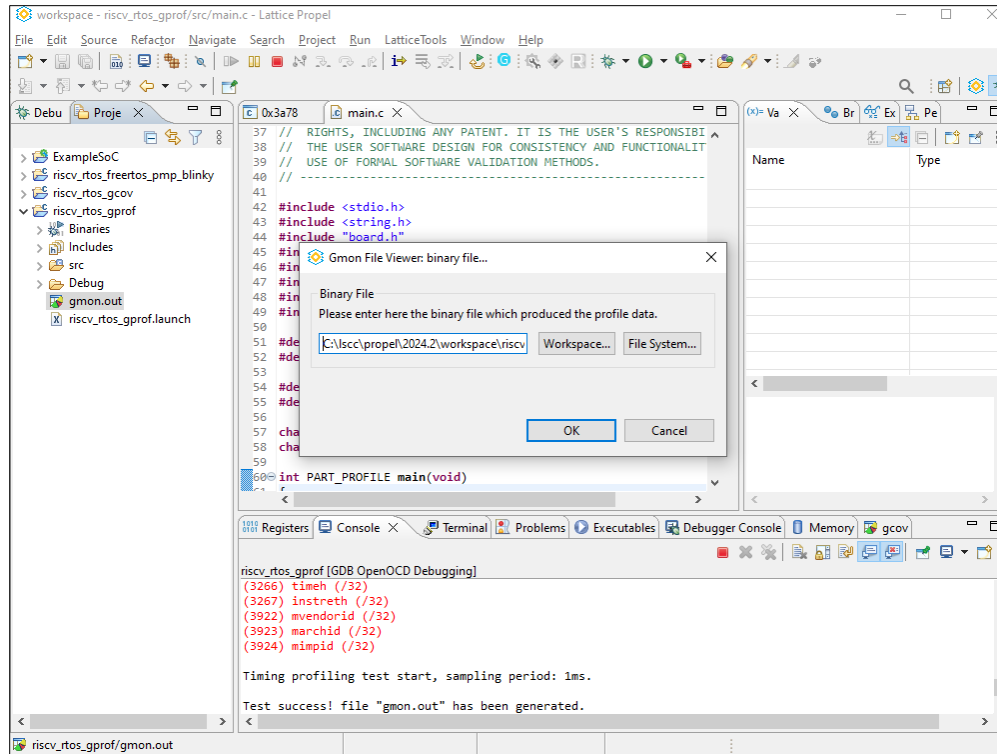

Figure 7.3. gmon File Viewer
1. Find the gmon.out file in Project Explore of the riscv_rtos_gprof project. Double-click this file (Figure 7.3). Click **OK**.